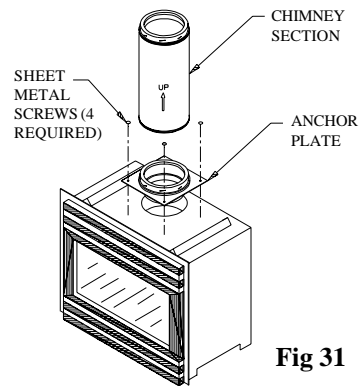

Fig 31
2. Anchor Plate: Attach an Anchor Plate to the fireplace top with (4) 5/8" sheet metal screws (Fig 31). Check with the appliance manufacture about the use of high temperature sealants.